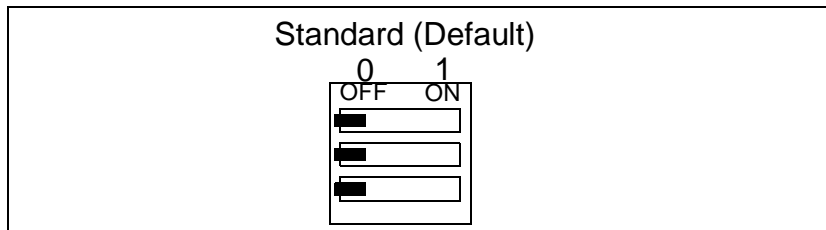

Figure 4-3 Standard switch S1 selection.
- Standard, refer to Figure 4-3, Table 4-1 and Table 4-2
- Standard 2, refer to Figure 4-3, Table 4-3 and Table 4-4